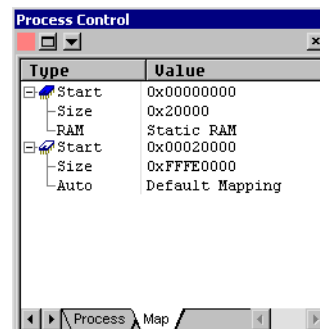

Figure 3-28 New memory map in the Process Control pane
14. Select **View** → **Memory Map** tab to view the new memory map, shown in Figure 3-28, before loading an image.